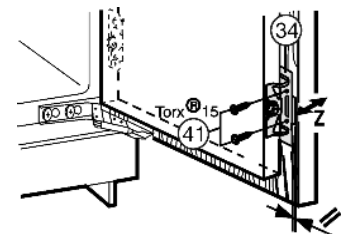

Fig. 24
- ▶ Fasten the appliance door to the unit door with screws Fig. 24 (41) through the mounting brackets Fig. 24 (34).